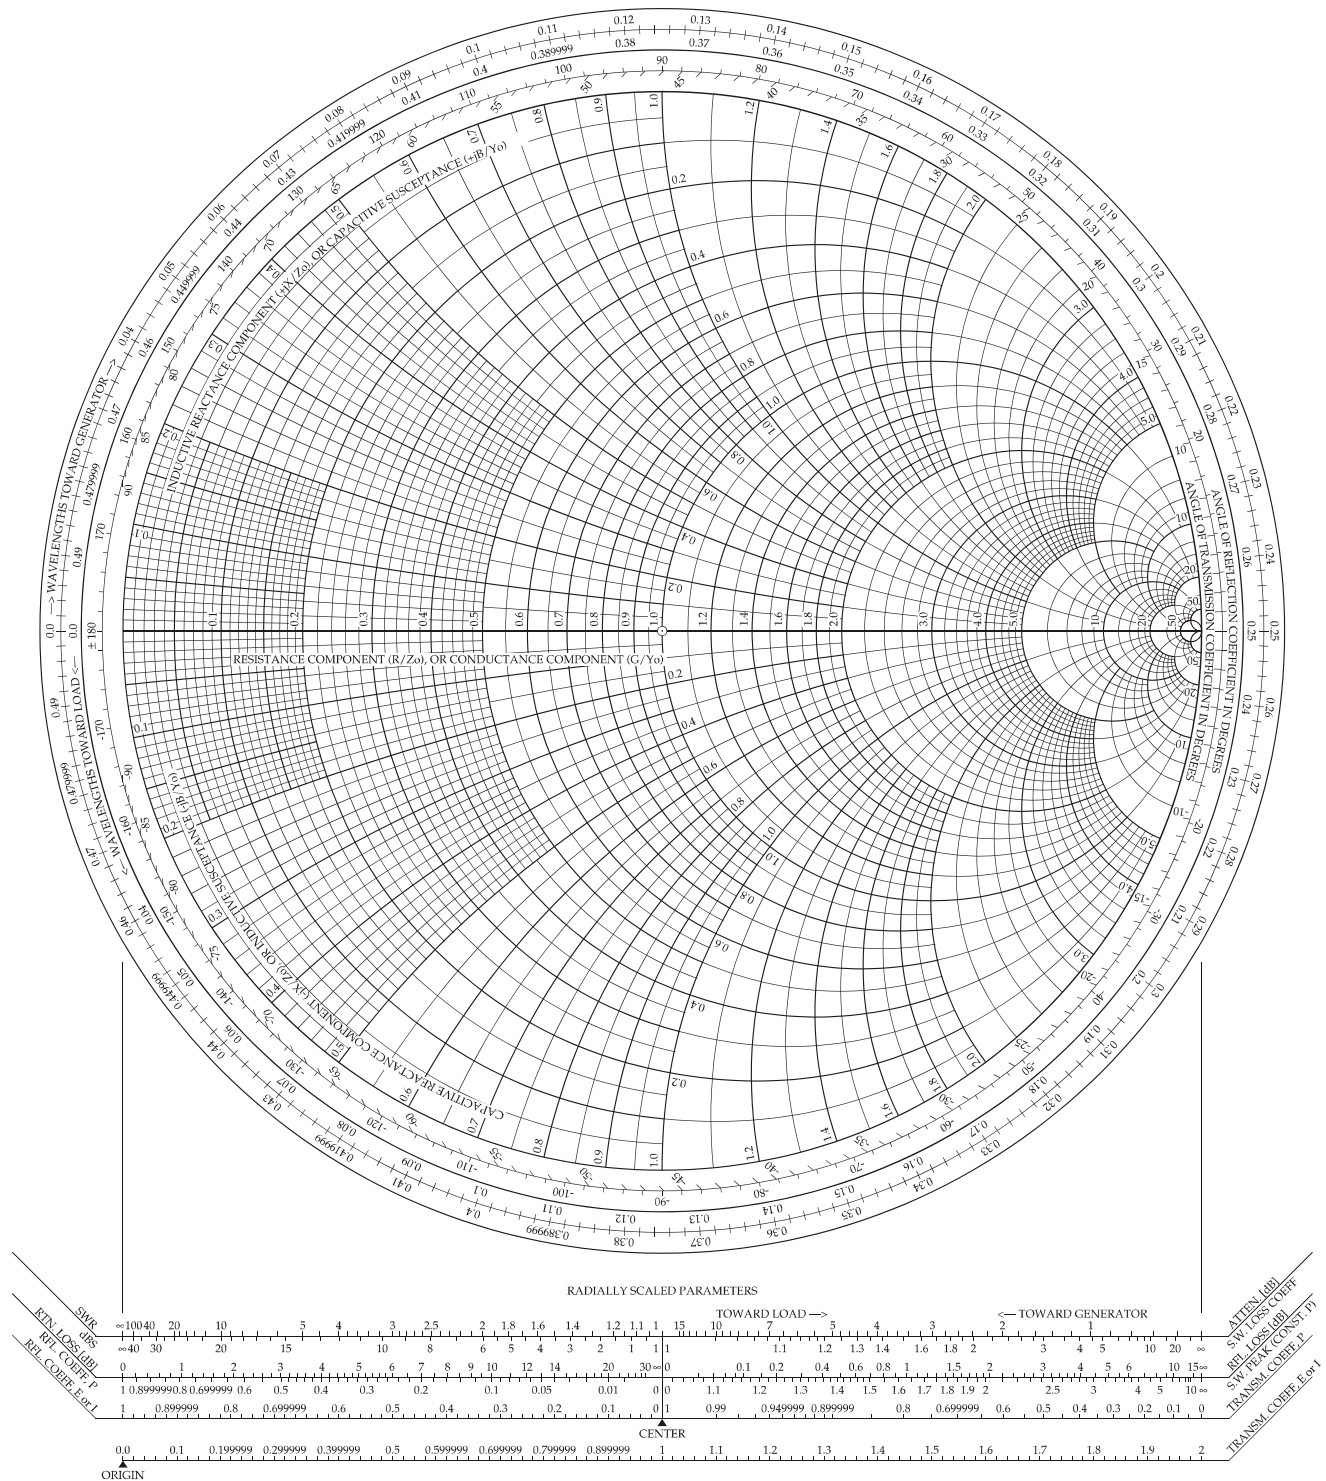

Figure 11-20. Plotting the locus of purely resistive loads.
5. On the Smith Chart in Figure 11-20, plot the axis of purely resistive loads.